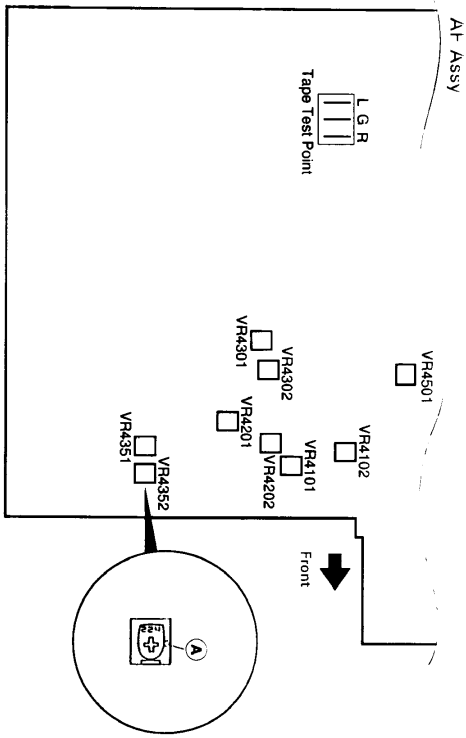

Fig. 2-4 Adjusting Points and Measurement Points
- Adjustment points and test points are shown in Fig. 2-2 and Fig. 2-4.
■ When adjusting the Head azimuth, remove the azimuth cover (L) and (R) before adjustment.
1. Open the cassette doors (L) and (R).
3. Confirm that the azimuth covers (L) and (R) have been moved a little to the front, close the cassette doors (L) and (R), and remove the azimuth covers.